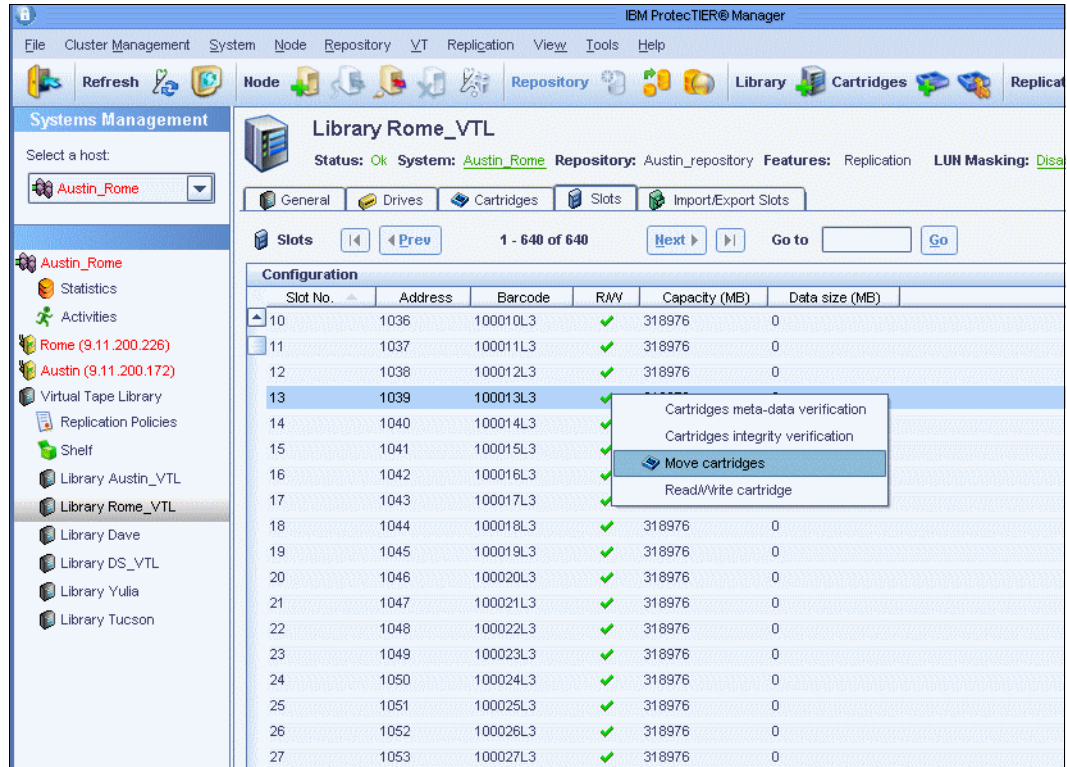

Figure 10-138 Select the cartridge that will be moved to shelf
3. Select **000005L3** cartridge and select **VT → VT cartridge → Move cartridges**, or you can select the cartridge and right-click and select **Move cartridges** (Figure 10-138).